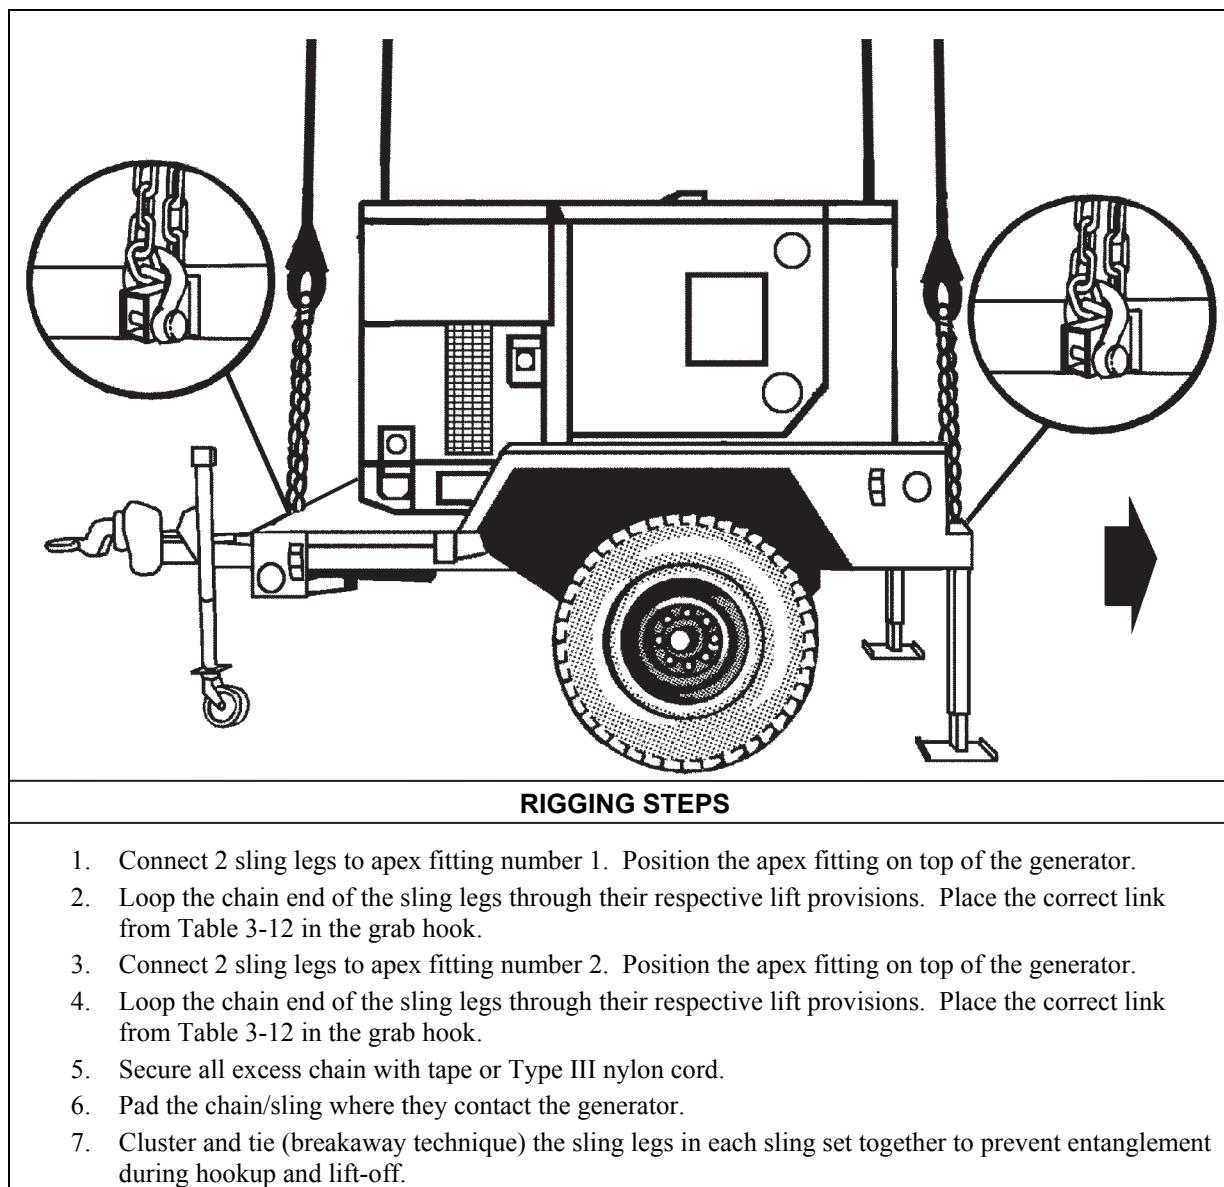

Figure 3-12. High Mobility Trailer-Light (HMT), M1101 with AN/TSQ-198
- **Rigging.** Rig the load according to the steps in Figure 3-12.